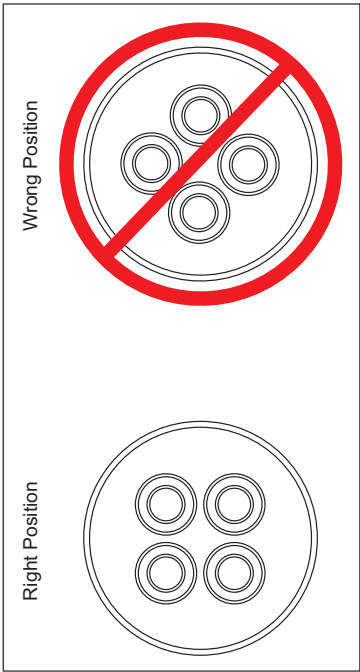

Figure 11. Front Plug Insertion
- b. The position of block must be as shown in Figure 11.